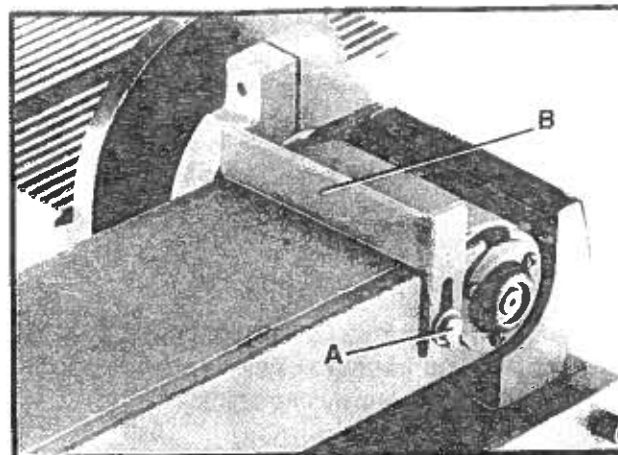

Fig. 40
2. Remove screw (A) Fig. 40, and remove backstop (B).